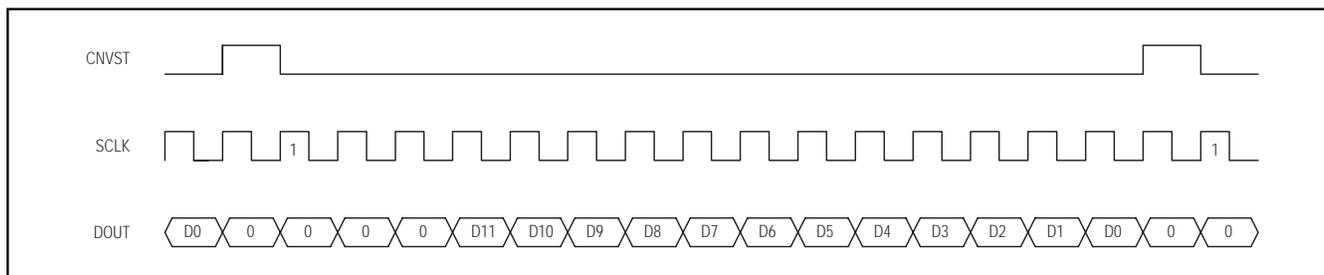

Figure 17. DSP Interface—Continuous Conversion
The MAX1277/MAX1279 can also be connected to the TMS320C54_ by using the data transmit (DX) pin to drive CNVST and the CLKX generated internally to drive SCLK. A pullup resistor is required on the CNVST signal to keep it high when DX goes high impedance and 0001hex should be written to the DXR continuously for continuous conversions. The power-down modes may be entered by writing 00FFhex to the DXR (see Figures 17 and 18).
and for an active-low frame (LTFS = 1, LRFS = 1) signal. This is also the best way to enter the power-down modes by setting the word length to 8 bits (SLEN = 1001). Connect the V_L pin to the ADSP21_... supply voltage when the MAX1277/MAX1279 are operating with a supply voltage higher than the DSP supply voltage (see Figures 17 and 18).